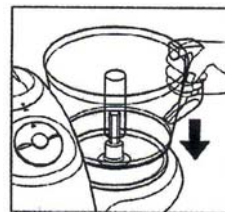

Fig. 1
2. Place the food processor bowl onto the processor body. There is no need to turn the bowl. (Fig. 1)